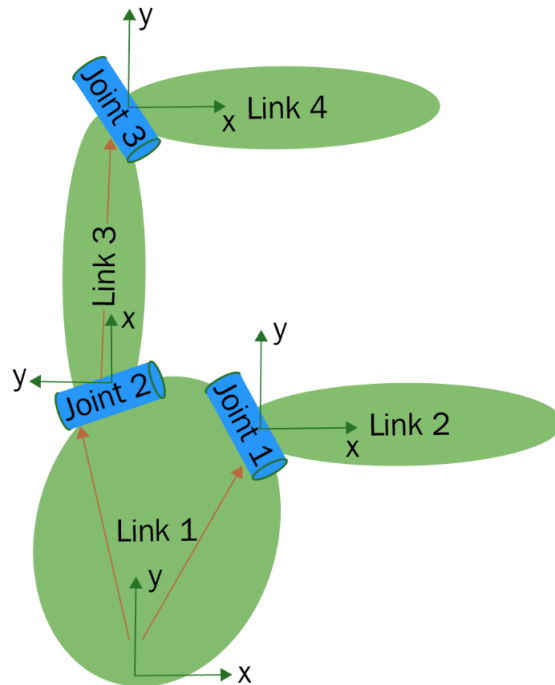

Figure 5.3: Robot model represented by the URDF.
- *robot*: This tag encapsulates the entire robot model that can be represented using URDF. Inside the robot tag, we can define the name of the robot, the links, and the joints of the robot. As shown in Fig. 5.3, a robot model consists of connected links and joints.